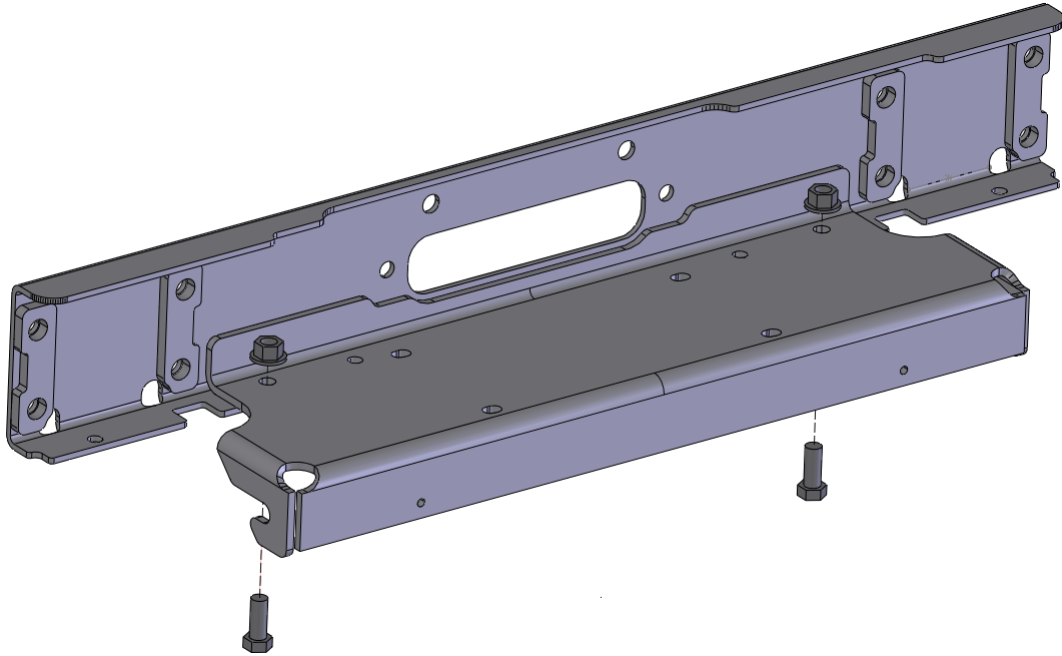

Figure 2
1. Attach the winch plate and fairlead brackets together. Use the M12 hex head bolts and flange nuts going from the bottom up (Fig 2).